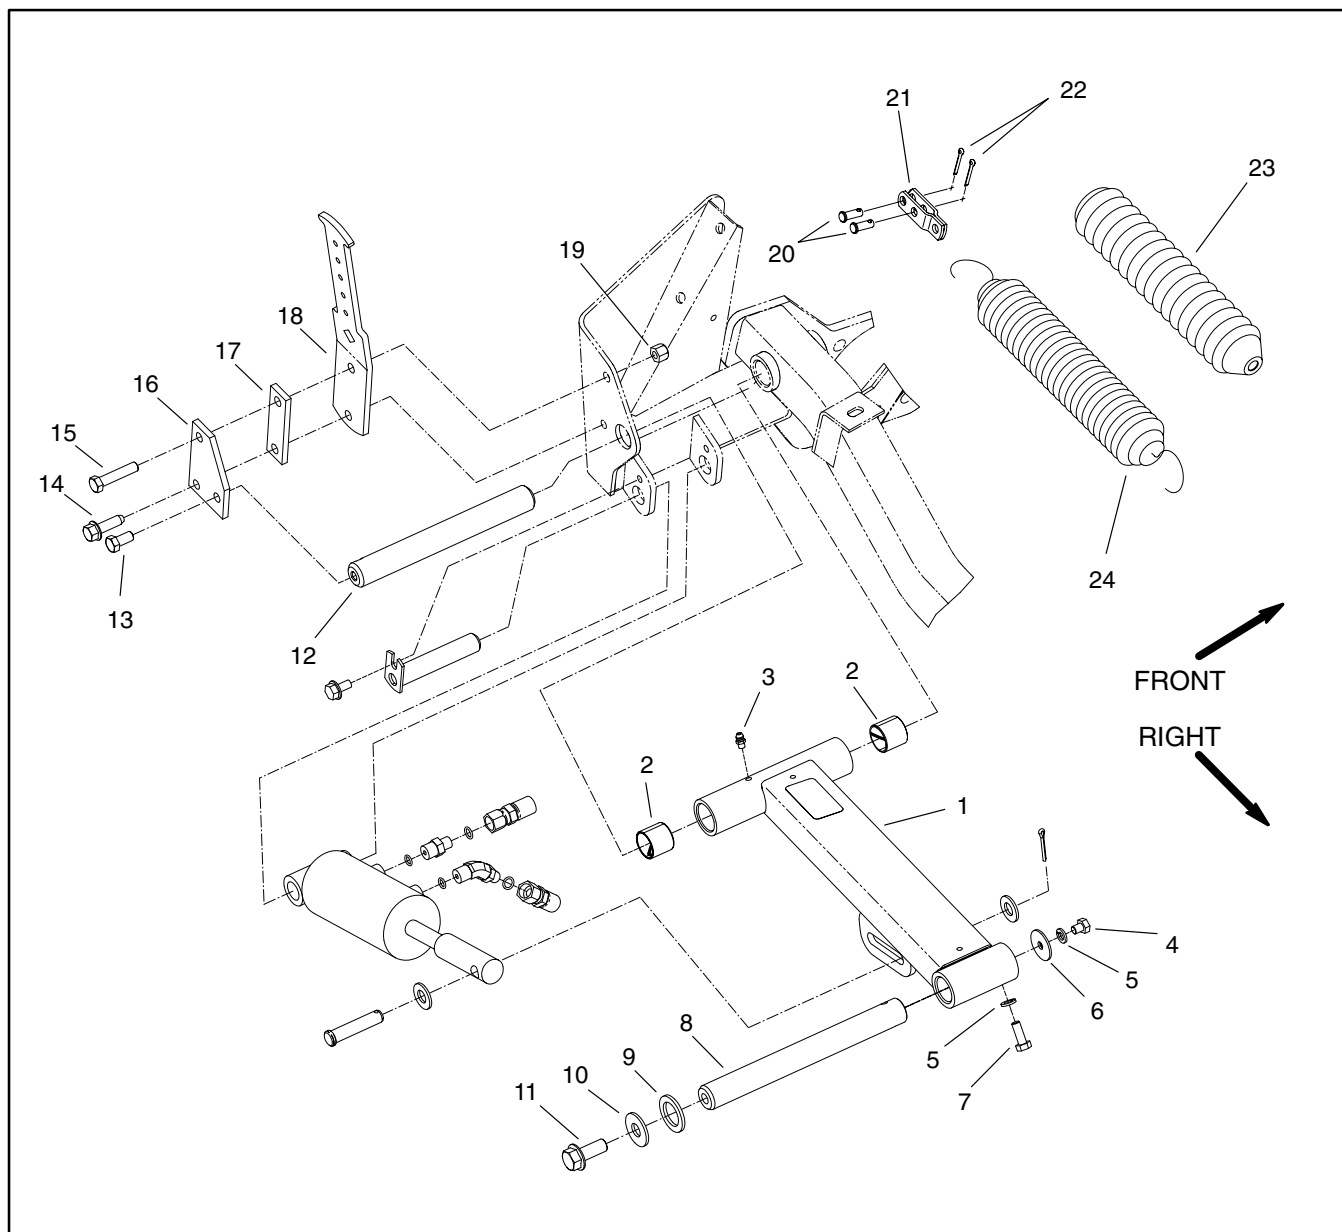

Figure 9
2. Remove rear lift arm components from machine using Figure 9 as a guide.
1. Install rear lift arm components to machine using Figure 9 as a guide. Mount cutting unit to lift arm (see Traction Unit Operator's Manual).